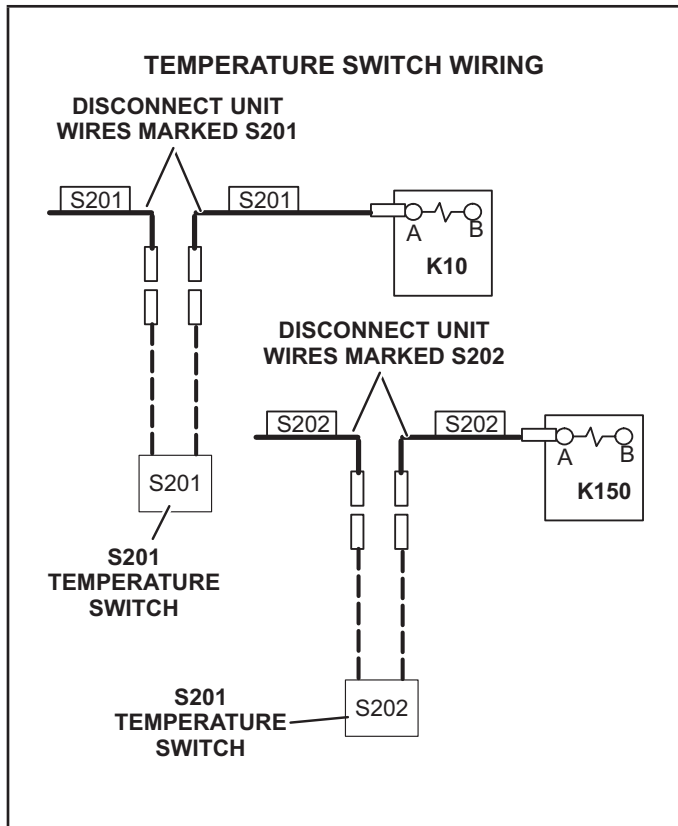

FIGURE 11
- 3 - Make wiring connections as shown in FIGURE 11.